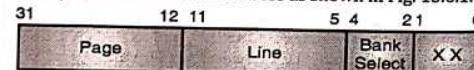

Fig. 13.6.1 : Address as viewed by L1 data cache
- Each memory address sent to the internal cache controller is examined to determine the page, line and doubleword that contain the target memory location by the division of the address as shown in Fig. 13.6.1.